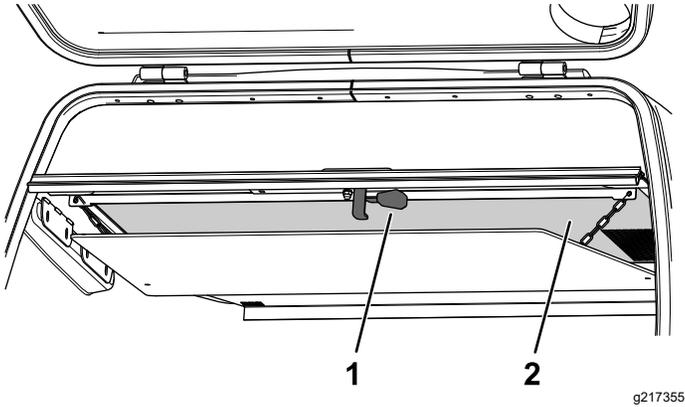

Figure 112
2. Pull the release lever on the bottom of the hopper screen downward (Figure 112).